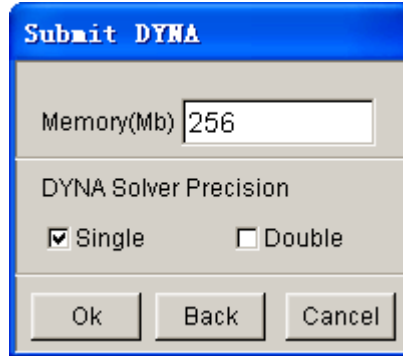

Figure 3.8.2 Define Memory dialog window
2. The SUBMIT DYNA dialog window, as illustrated in Figure 3.8.2 appears. The dialog window enables user to specify the memory and type of LS- DYNA solver, either Single or Double precision. The default memory is set as 256MB. User can assign different memory value according to model size.